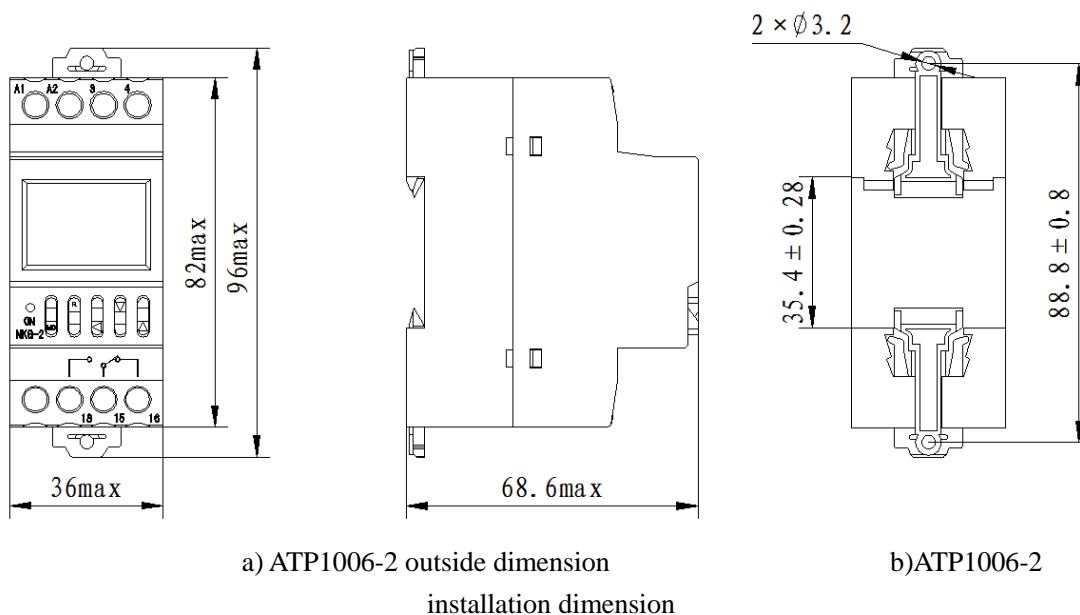

Figure 1 Outside dimensions and installation dimensions of ATP1006-2
5.1 Outside dimension and installation dimension see Figure 1.